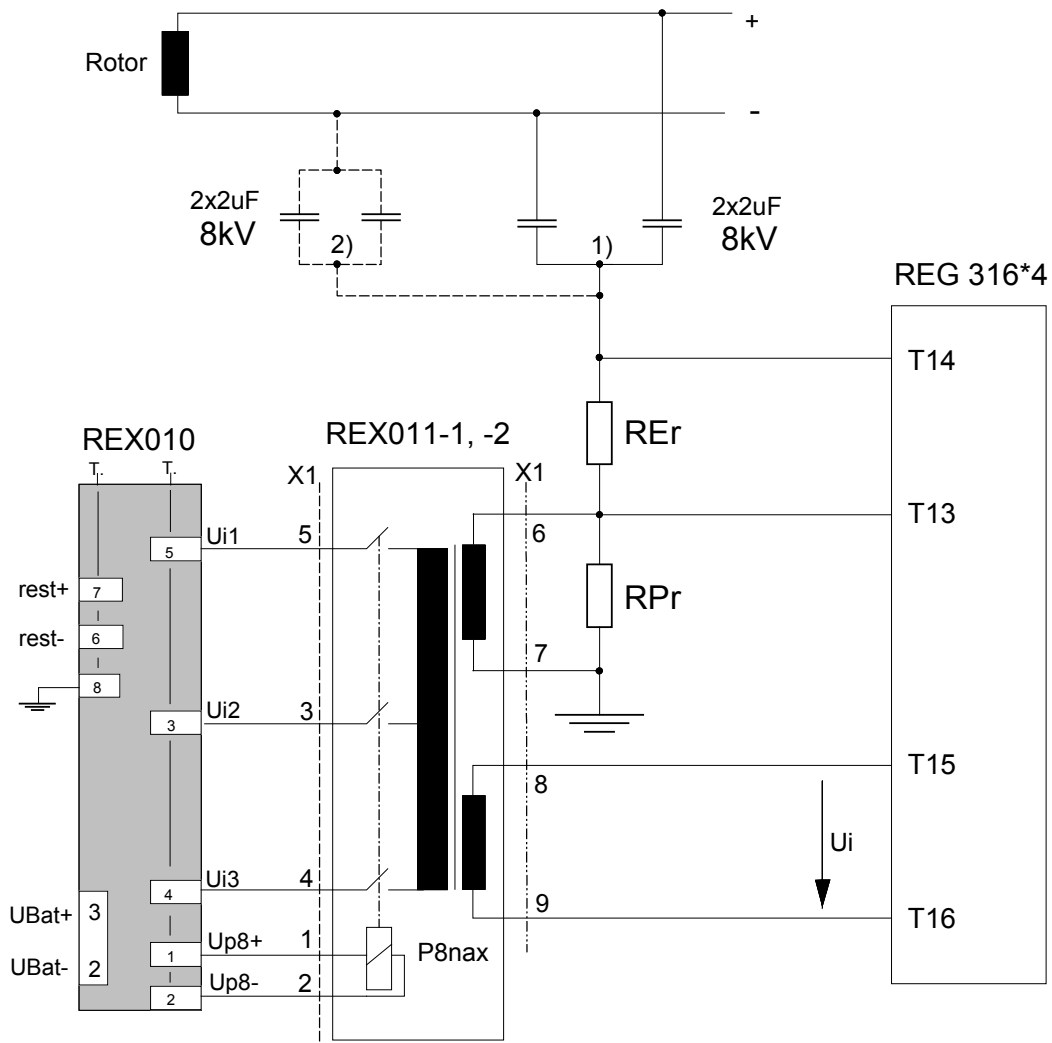

Fig. 2.8 Wiring diagram for rotor ground fault protection using REX 011-1, -2 (see Fig. 2.11)
- Fig. 2.8 Wiring diagram for rotor ground fault protection using REX 011-1, -2